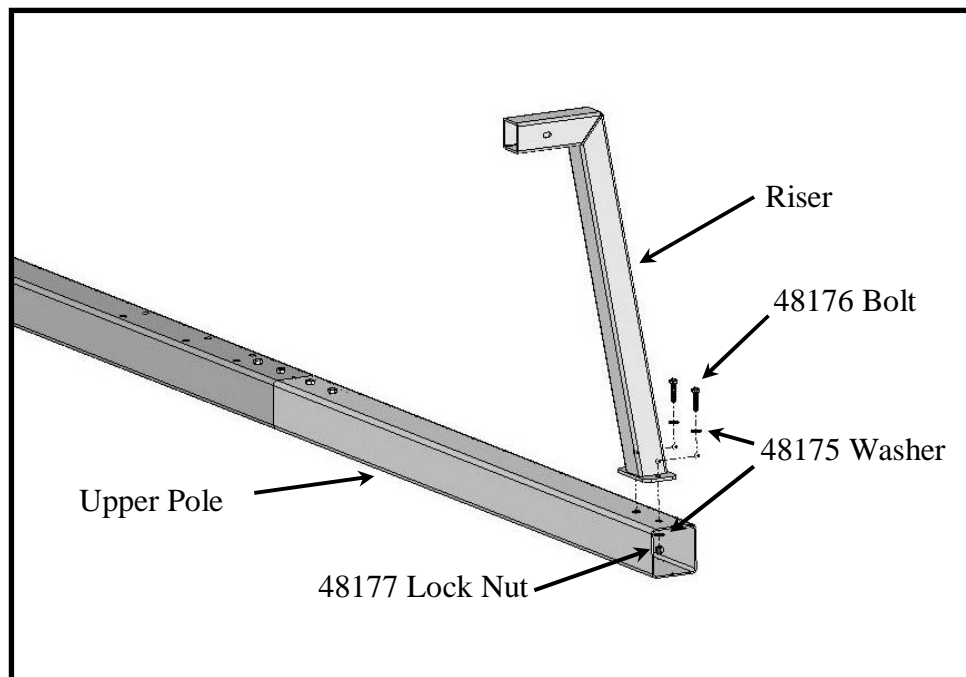

Figure 42 – Attach Riser to Upper Pole
- e) Attach the riser to the upper pole using (2) 48176 bolts, (3) 48175 washers, and (1) 48177 lock nut on upper bolt. *See Figure 42.*